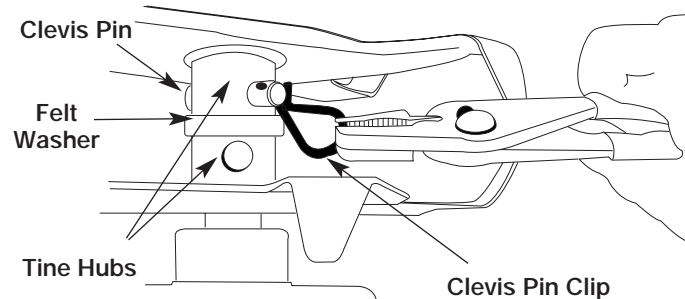

Figure 20
- Put the On/Off Stop Control in the **STOP (O)** position and disconnect the spark plug wire.
- Remove the clevis pin clips and clevis pins. See Figure 20.